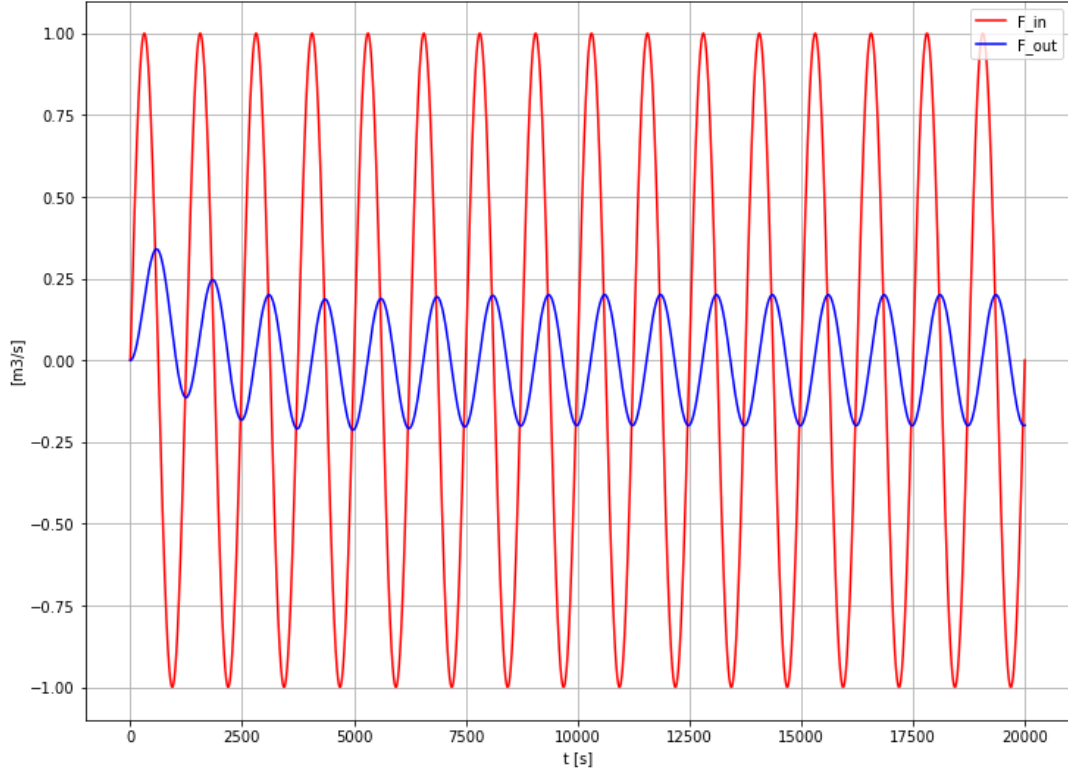
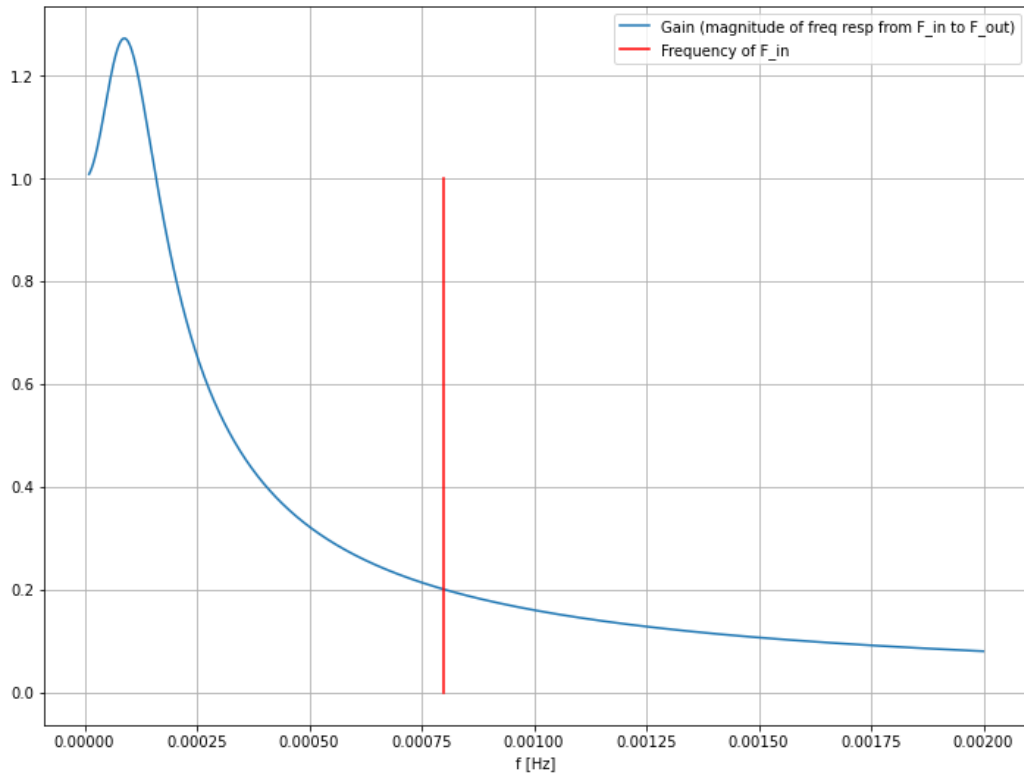

Figure 7: Problem 9: F_out with $t_{p_F.in} = 1250$ s.
Figure 8: Problem 9: Bode plot of transfer function from F_in to F_out.
2. (6 %) Figure 7 shows F_in with period $t_{p_F_in} = 1250$ s and the resulting response in F_out . From Figure 7 we see that the ratio between the amplitude of F_out and the amplitude of F_in is approximately 0.2. The Bode plot shown in Figure 8 also indicates an amplitude gain of approximately 0.2 at frequency $0.0008 = 1/1250$ Hz of the sinusoidal F_in . So, the simulation and the Bode plot are in accordance.